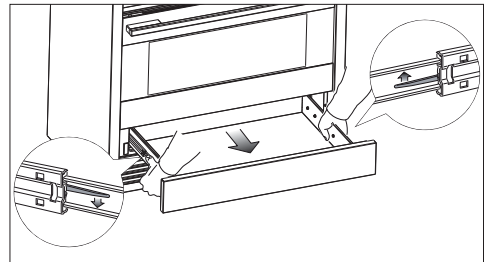

Fig. 5 Accessing the anti-tilt bracket by removing the drawer
- 4 Access the bracket by removing the drawer (Fig. 5):